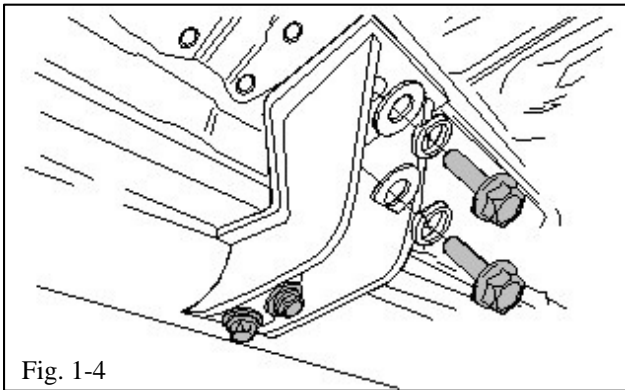

Fig. 1-4
(c) By hand, place three (3) flange bolts with one (1) lock washer and one (1) round flat washer per bolt into the mounting holes that are towards the inside of the vehicle and hand tighten (Fig. 1-4).
⚠ NOTE: Ensure that the flat end of the washer is parallel to the bend line of the bracket (Fig. 1-4).